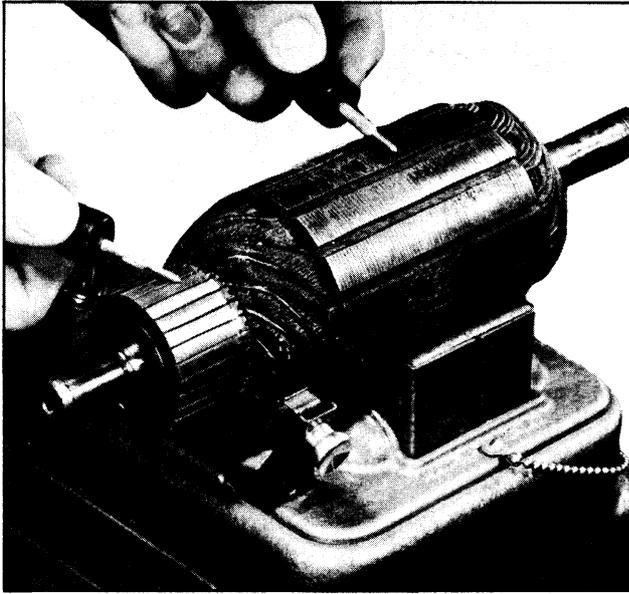

Fig. 13-16 Checking Armature
7. Using a 110-volt test lamp, place one lead on armature core and other on each commutator bar. If lamp lights, armature is grounded and must be replaced. (See Fig. 13-16)